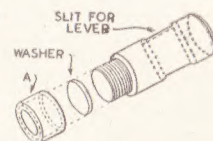

Fig. 3—Washer details
It will be seen from the diagram that the 'shell', containing the cartridge, is screwed to the part of the ball-cock, made up of the stop-cock and the face. Unscrew the 'shell', and take out the cartridge. Fig. 3 shows how the cartridge is constructed. Unscrew the part of the cartridge, marked (A) in the diagram, and take out the old washer. A new washer must now be made.